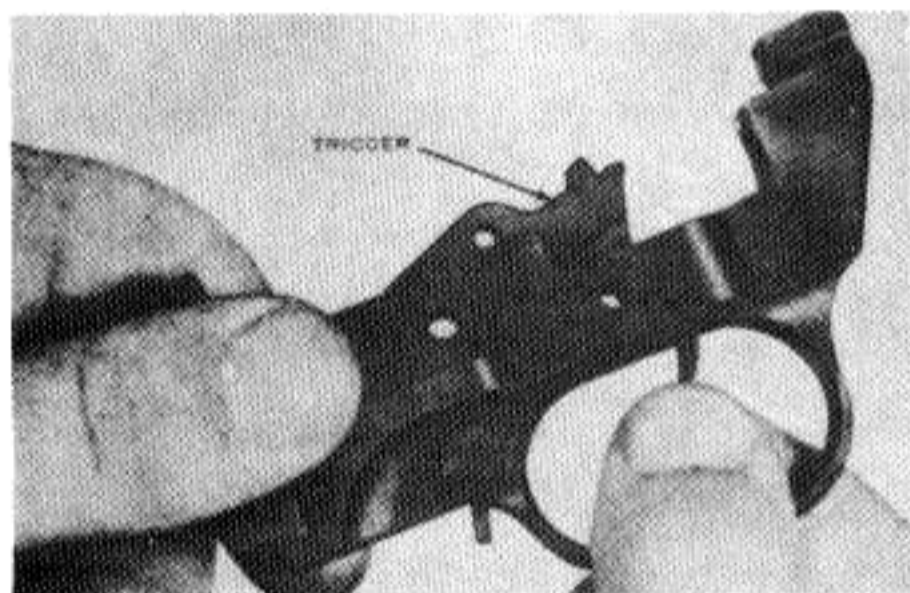

Figure 22. Removing the trigger.
*d.* Hold the trigger housing group as shown in Figure 22. Move the trigger forward and then rotate the rear of the trigger upward and forward out of the top of the trigger housing group. Remove the trigger spring from the trigger housing group during this step.